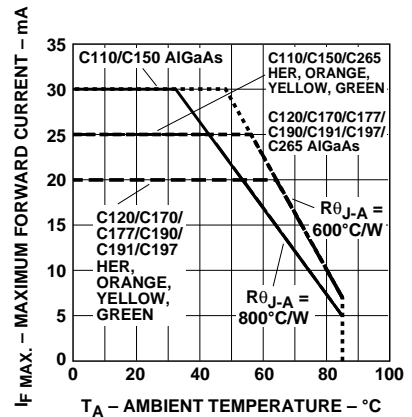

Figure 4. Maximum Forward Current vs. Ambient Temperature.
- Derate linearly as shown in Figure 4 for temperature above  $25^\circ\text{C}$ .